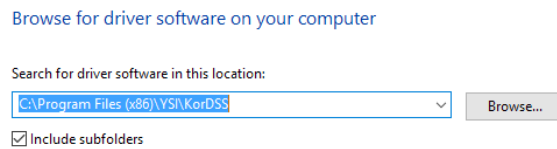

Figure 87 Driver location Windows 10
5. Click Browse, then navigate to the file location: **C:\Program Files (x86)\YSI\KorDSS** for 64 bit systems (Figure 87) or **C:\Program Files\YSI\KorDSS** for 32 bit systems. Click **Next**.